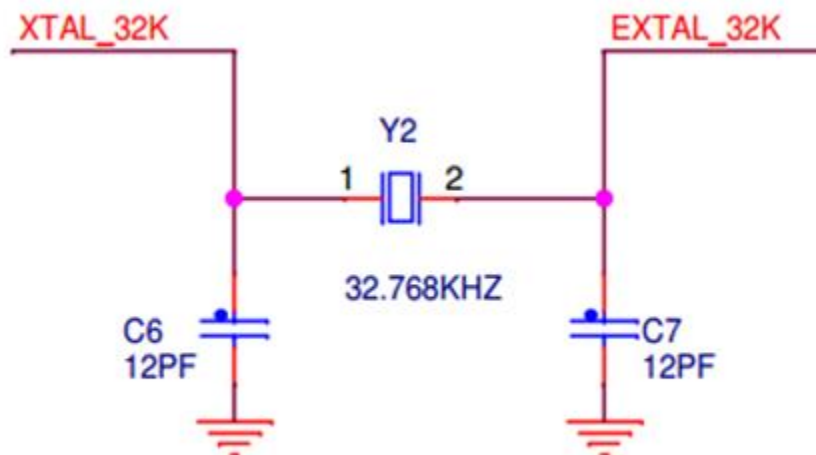

Figure 7. USB-KW41Z 32.786 kHz oscillator circuit
- A secondary 32.768 kHz crystal Y2 is provided (see Figure 7)